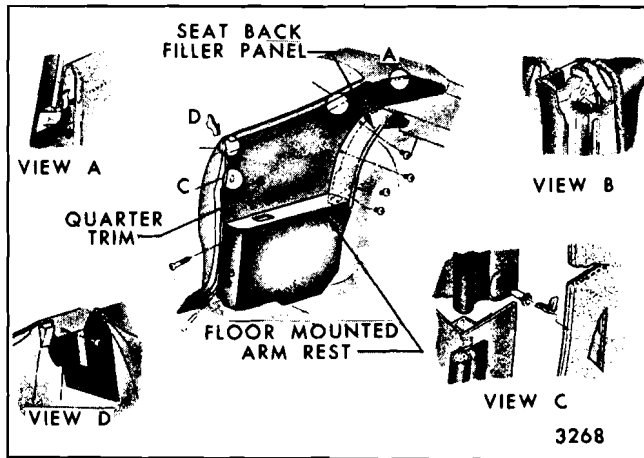

Fig. 14-20—Rear Quarter Arm Rest and Trim Assembly - "A" Two-Door Styles
7. Use trim panel removing tool J-6335 or J-9886 or equivalent to disengage body lock pillar windlace retaining nails from tacking strip on "E" body styles (Fig. 14-28), and retaining clips from plastic retaining plugs (View "B", Fig. 14-18, View C, Fig. 14-20 and View F, Fig. 14-19).